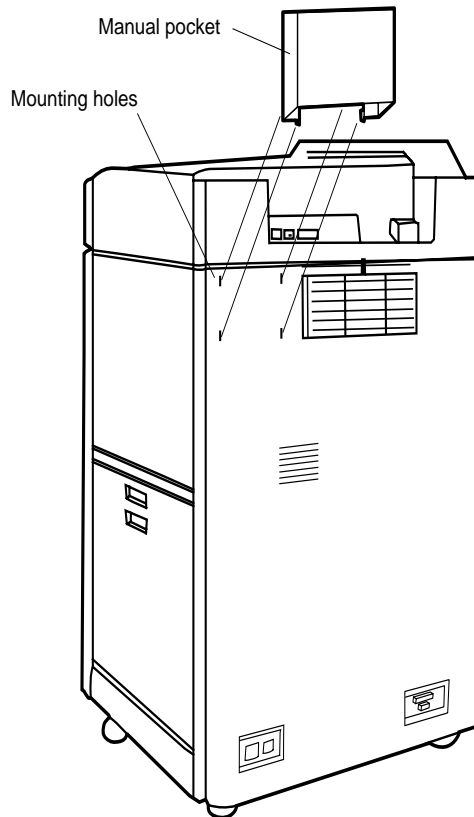

Figure 2-37 Installing the Manual Pocket
2. Remove from box and mount the manual pocket on the rear of the printer. See Figure 2-37.